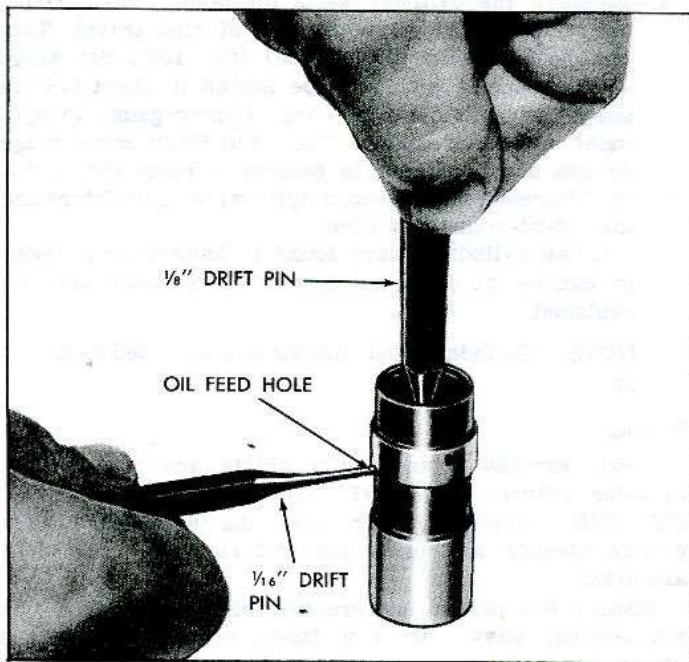

Fig. 96—Assembling the Hydraulic Lifter
4. Fill the assembly with SAE 10 oil, then insert the end of a 1/8" drift pin into the plunger and press down solid. At this point oil holes in the lifter body and plunger assembly will be aligned (fig. 96).
5. Insert a 1/16" drift pin through both oil holes to hold the plunger down against the lifter spring tension (fig. 96).